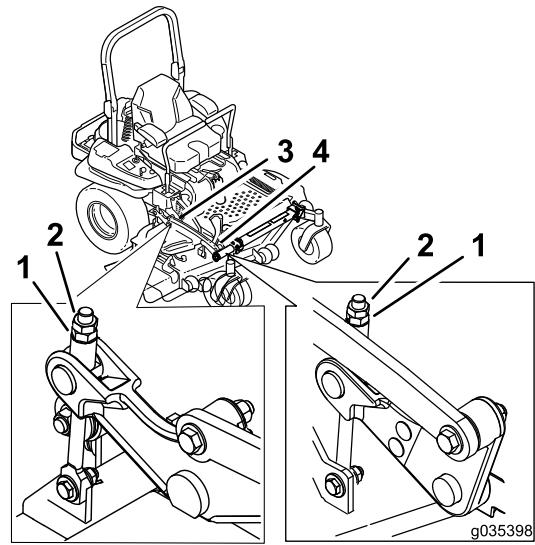

Figure 97
- 10. Fine-tune the adjustment nut on the front deck lift assembly by turning it (Figure 97).
- Fine tune the screw adjuster by turning it to get 8.3 mm (3-1/4 inches) height (Figure 97). To increase the height, turn the adjustment nut clockwise; to decrease, turn counterclockwise.